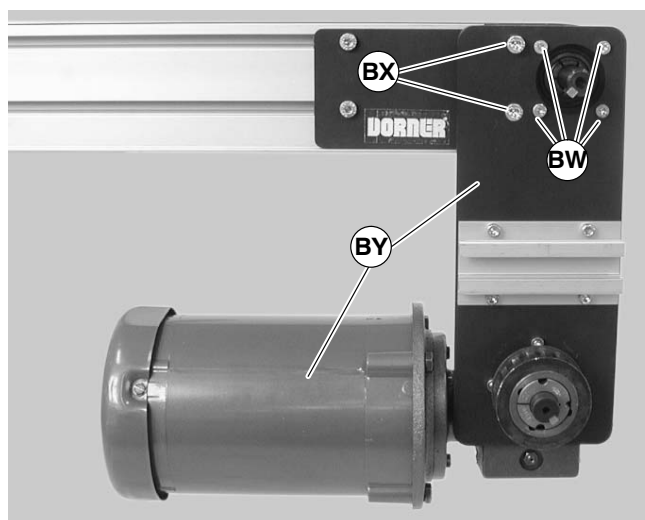

Figure 62
- 5) Remove four (4) M5 mounting screws (BW of Figure 62) and two (2) M8 mounting screws (BX).
- 6) Remove gearmotor and mounting plate assembly (BY of Figure 62).